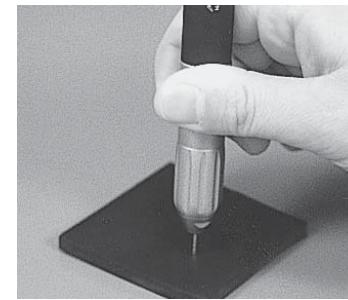

Fig. 7
- As the chuck of the PRESTO handpiece is a push-in type, set the FG burs of ø1.6mm and push in as shown in Fig.7